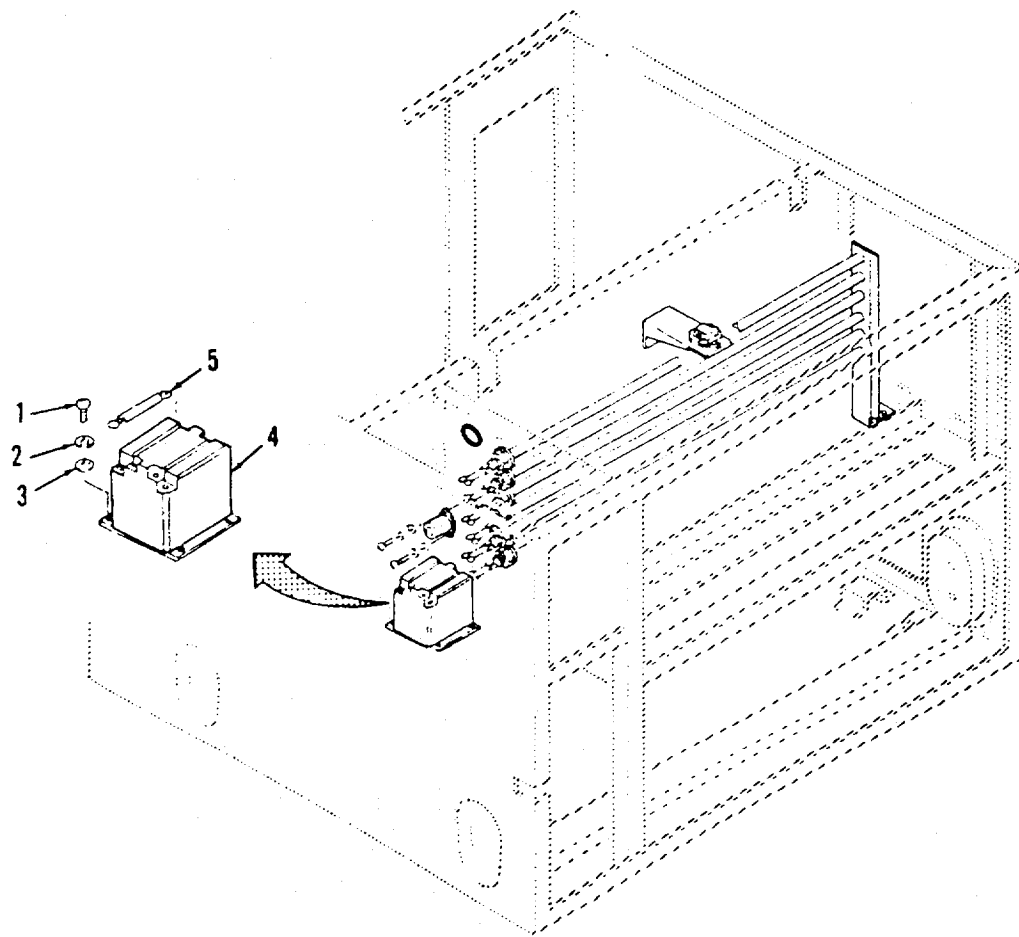

Figure 3-20. Heater Relay.
- a. **Removal.** (Refer to Figure 3-20).